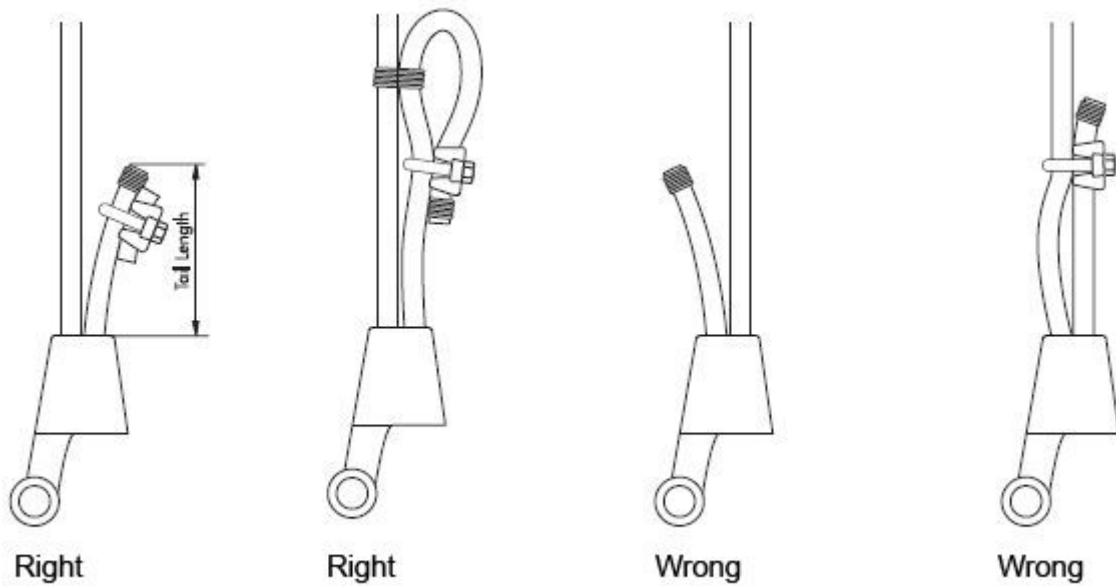

Figure 3
- never weld the tail on standard wire rope; the tail should have a length of at least 6 times the wire rope diameter with a minimum of 150 mm, secure the dead end of the rope with a wire rope clip as shown in figure 3